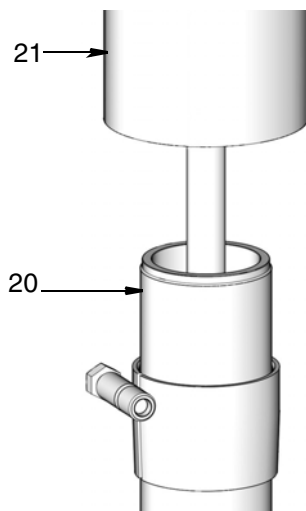

FIG. 6
- Unscrew down tube (20) from pump base (21) (FIG. 6).